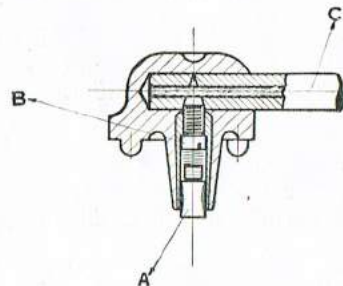

Fig. 9. Section of pick-up.
The pickups are provided with concealed terminals. To wire up, the cable *must not be bared*, but should be cut off flush to the required length. Then remove the brush and spring (A, Fig. 9), and screw (B) from the pickup and push the cable (C) hard home.